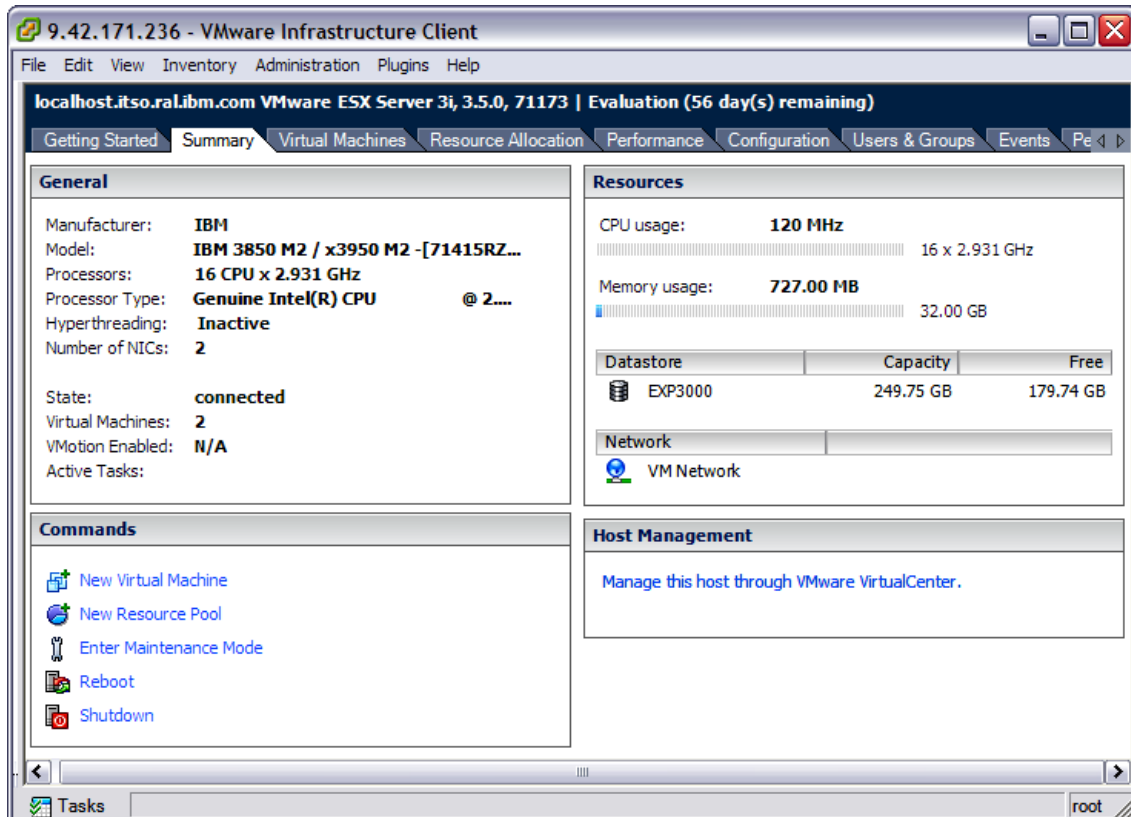

Figure 5-20 Summary tab after connecting to ESXi using VI Client
8. Most of the other settings, typically configured for ESX 3.5, can be also configured similarly by using VI Client, as shown in Figure 5-20.